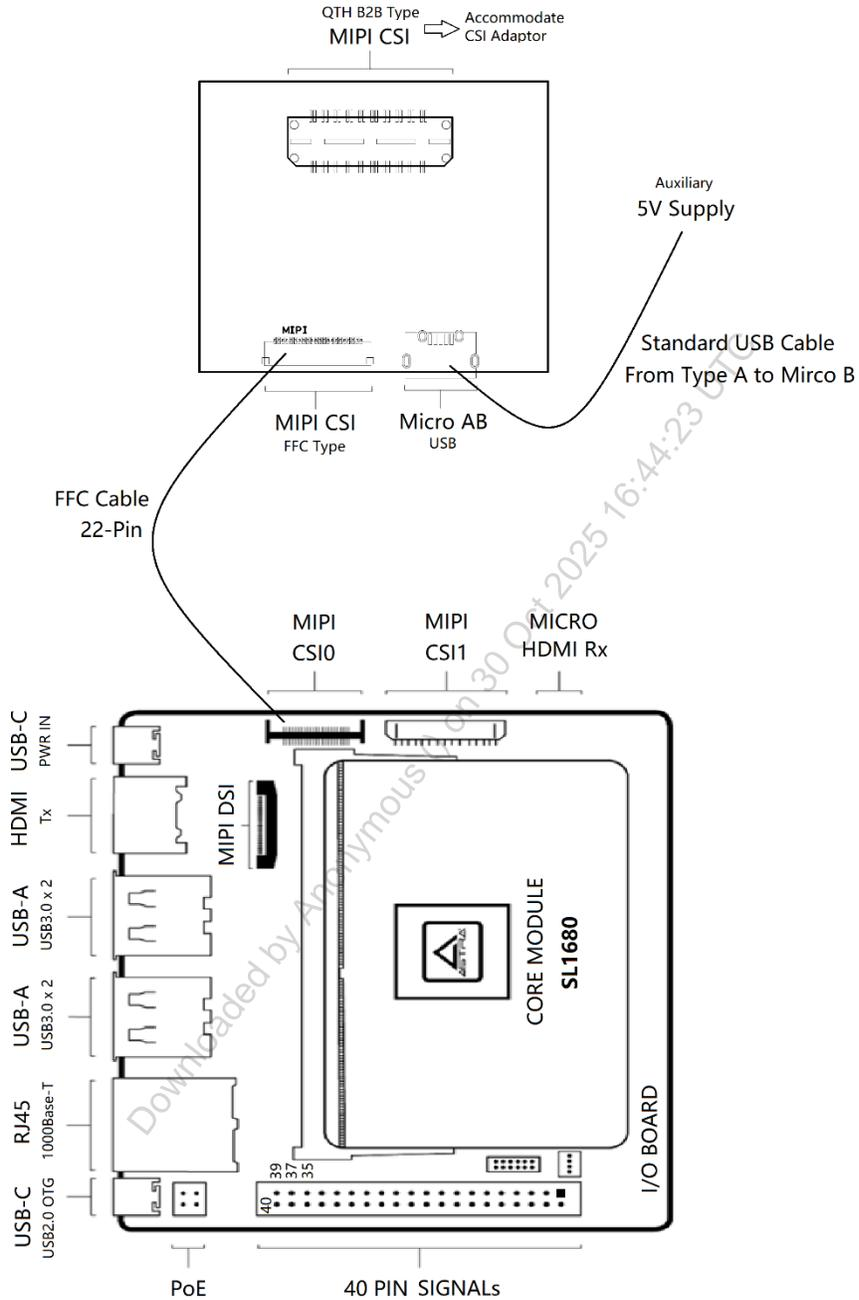
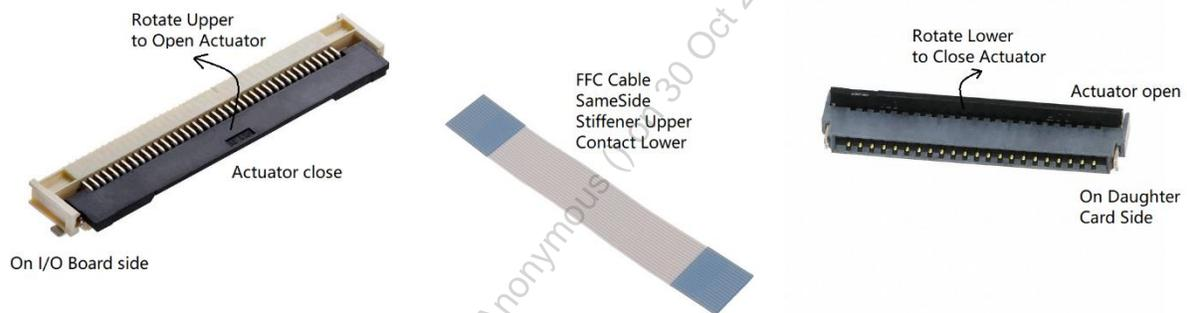

Figure 6. Connection block diagram for MIPI CSI Camera Module
Figure 7. Connector Actuator Status & FFC cable side (Type 1)
- [b] Connect a 51mm FFC cable between the MIPI CSIO connector on the Astra I/O board and the FFC connector on the connector converter board as illustrated in Figure 6. Ensure the actuator of the FFC connector on both the I/O and converter boards is open before inserting the cable. The stiffener film should face upwards, as depicted in Figure 7 and Figure 8.
Refer to Figure 7 or Figure 8 to connect the standard USB-A to Micro B cable with Micro AB connector of connector converter board and USB 5V power supply, as shown in Figure 6.
C	Updated the following figures: <ul style="list-style-type: none"> • Figure 6. Connection block diagram for MIPI CSI Camera Module • Figure 7. Connector Actuator Status & FFC cable side (Type 1) • Figure 8. Connector Actuator Status & FFC cable side (Type 2) • Figure 9. Connector connection with IMX258 module adapter • Figure 10. Complete connection with converter & IMX258 adapter